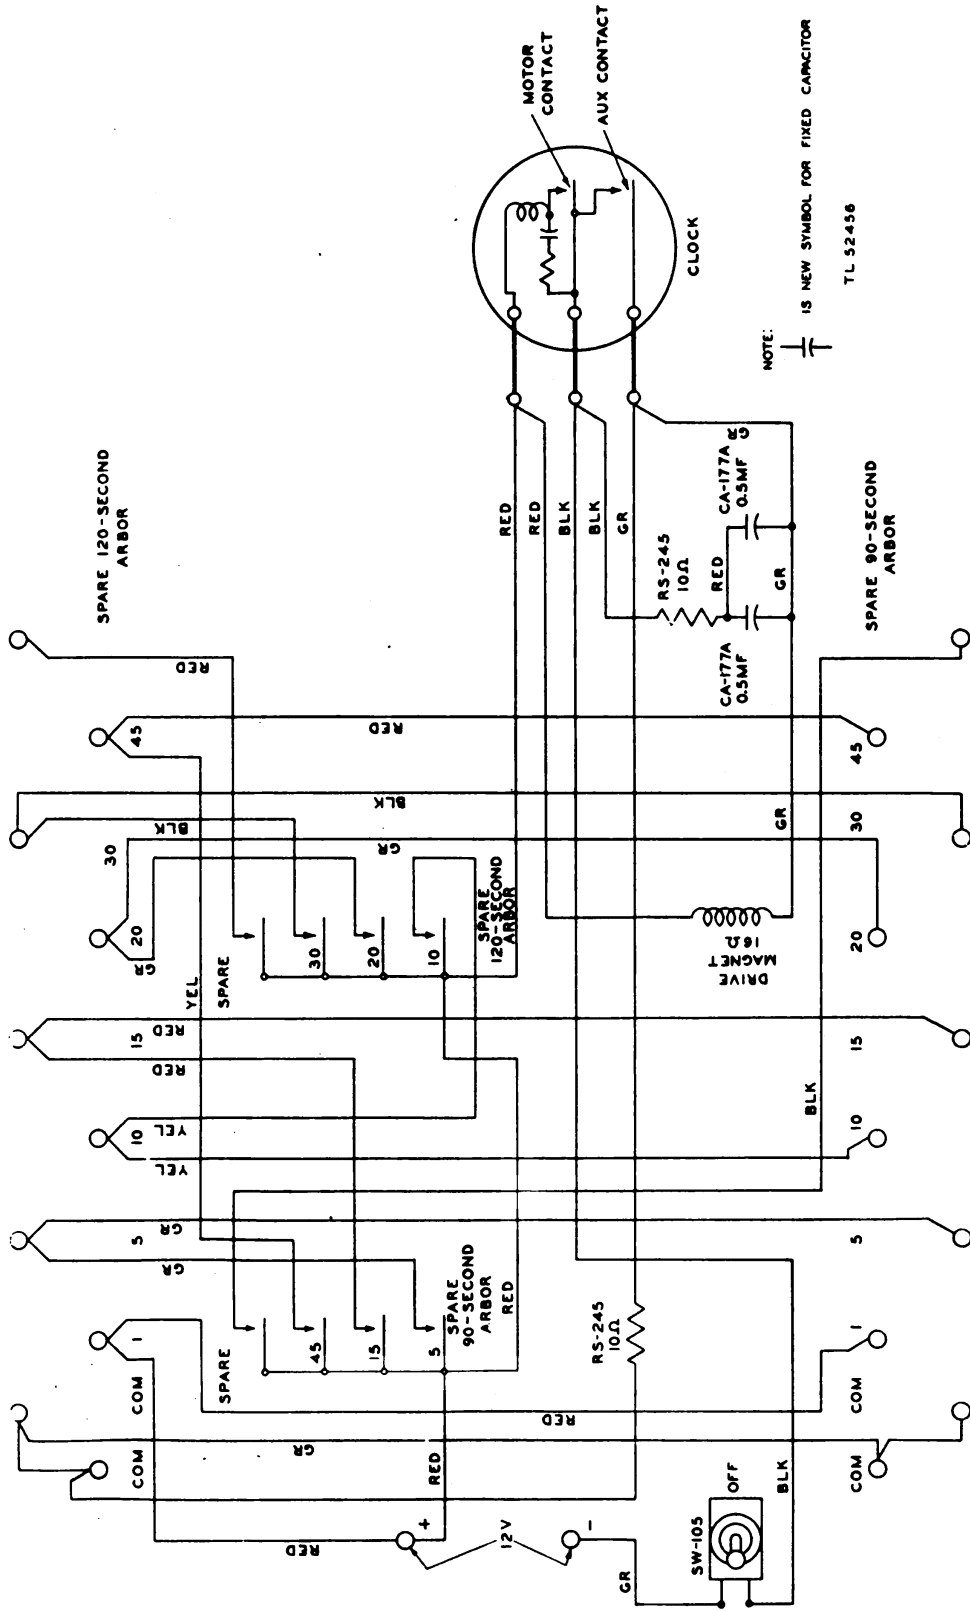

Figure 27. Time Interval Apparatus EE-85—circuit diagram.
**d. OTHER CIRCUIT COMPONENTS (fig. 27).** A circuit limiting resistor is placed in series with the auxiliary contacts of the clock to prevent damage to the apparatus should the auxiliary contacts weld together. An interference filter is connected across the auxiliary contacts to prevent interference with radio and other communication systems.